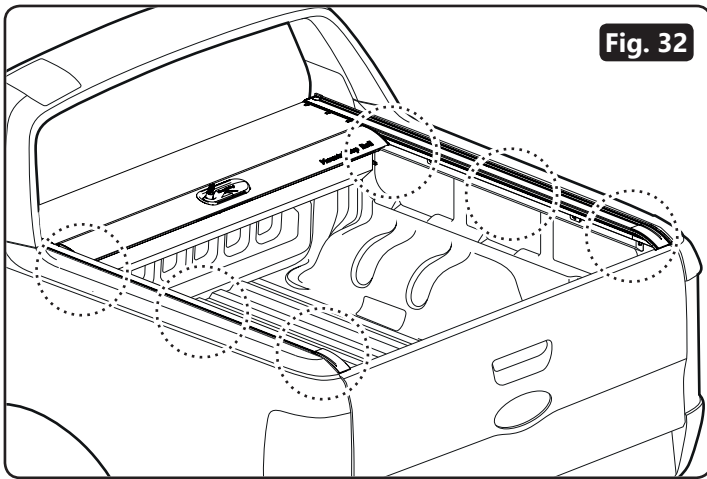

Fig. 32
- Over time, some of the bolts may loosen due to vibrations. To re-tighten the bolts correctly, first locate the 6 brackets underneath the side rails. (*fig. 32*)